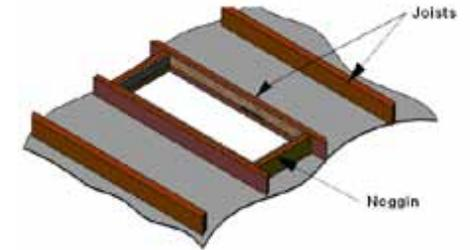

Figure 2
1. Make a rough opening in the ceiling, and frame to size (suitable to your model purchased) as shown in Table 1 (on page 2) & figure 2 (above).